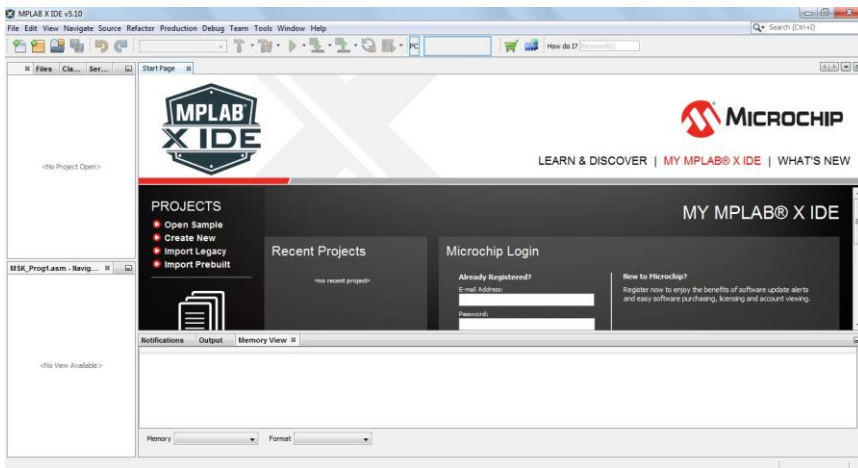

Fig 4.7 MPLAB window
2. After the installation, select and click on the shortcut of MPLAB X IDE v5.10 in the start window. The following window opens as shown in Fig 4.7.